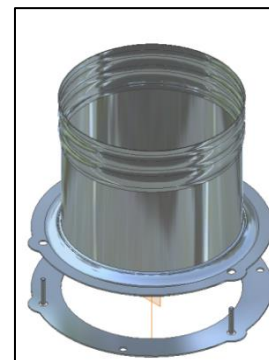

Figure 3-8: 6CON Liner Connector
The Elegance 42 fireplace can be connected to a masonry chimney that complies with current national and municipal building codes. A 6 inch chimney liner that complies with ULC S635 M2000 (Canada) or UL 1777 (US) standards must be installed within the existing masonry chimney. Note that the 6CON connector (manufactured by SUPREME FIREPLACES INC.) must be installed to connect the prefabricated chimney to the liner (6CON sold separately), unless otherwise specified by the manufacturer of the prefabricated chimney being used. Refer to figure 3-8.